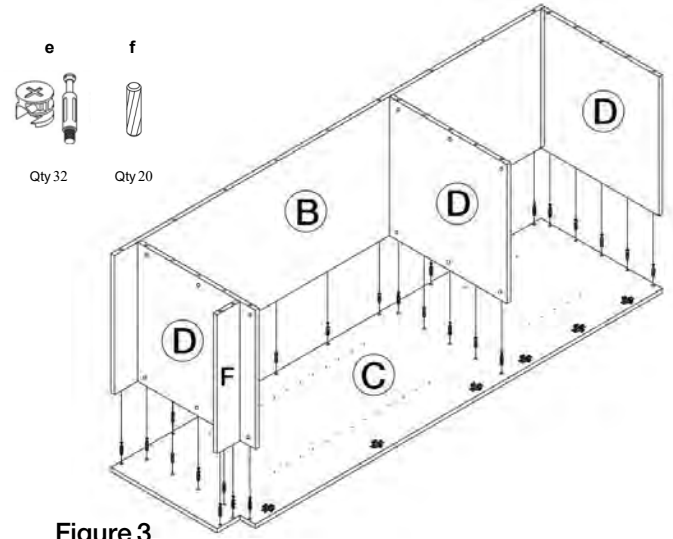

Figure 3
3. Install metal male cam locks (e) into designated holes on side panel (C) and bottom panel (D). Use screwdriver to tighten. Install the wooden dowels (f) into designated holes. (Figure 3)
4. Install the toe kick (F) onto bottom panel (D). (Figure 3)
5. Install Top & Center Panels (D) onto the right side panel (C). (Figure 3)